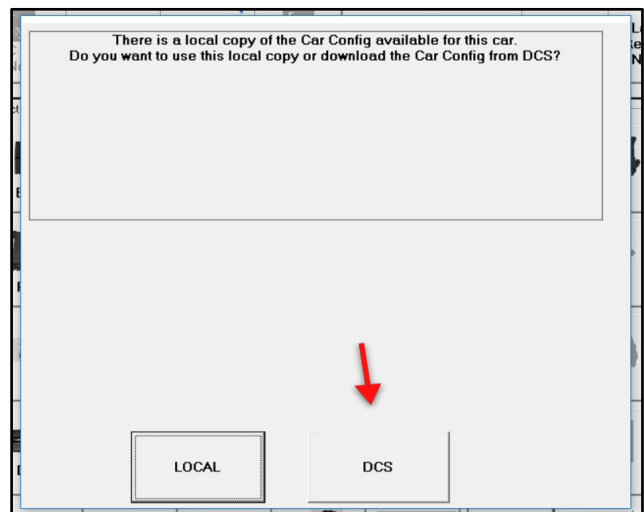

Figure 2
- Click "DCS" to download the Car Config from DCS (refer to Figure 2).